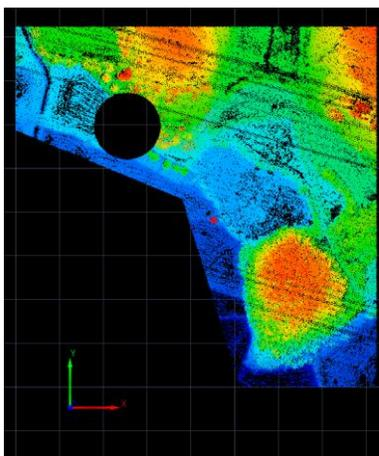

Figure 3-111 Cut Selected Points
- (1) Click the menu <Tools>→<Cut Selected Point>.
- (2) Only the point cloud with non-selected status will be retained in the current view (Figure 3-111).